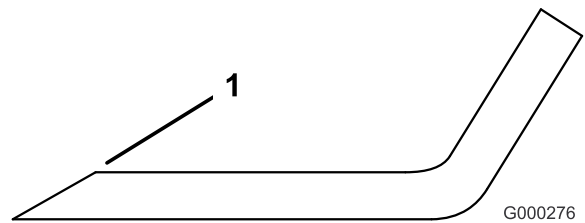

Figure 84
- Examine the cutting edges of all of the blades. Sharpen the cutting edges if they are dull or nicked. Sharpen only the top of the cutting edge and maintain the original cutting angle to make sure of sharpness (Figure 84). The blade will remain balanced if the same amount of metal is removed from both cutting edges.